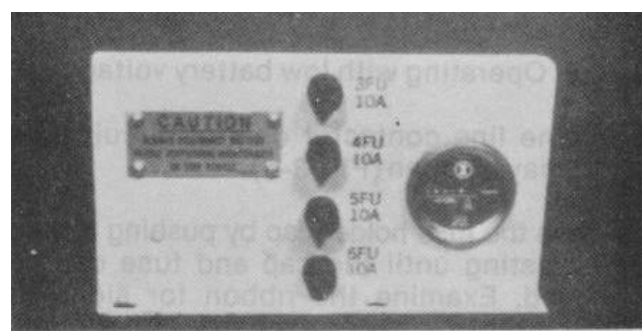
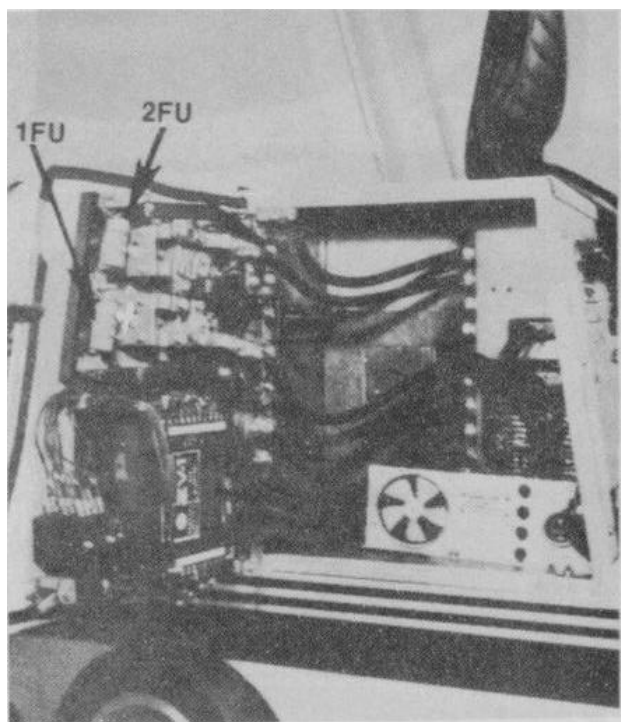

Figure 3-4
Figure 3-5
3.16 The line circuit control fuse (3FU) may be open. Remove the fuse holder cap by pushing inward and twisting until the cap and fuse can be removed. Examine the ribbon for signs of overcurrent damage. Excessive fuse openings may be due to shorts in associated components or wiring (Fig. 3-4).
Access to the fuse may be obtained by opening the electrical door at the right side of the vehicle. The control circuit fuses are mounted on a panel (Fig. 3-4). Twist and pull out the fuse and examine the ribbon for separations. Check the hydraulic pump motor fuse now that the electric door has been opened (Fig. 3-5).
3.17 The drive circuit power fuse, (1 FU), may be open. Disconnect battery and check continuity with a volt-ohmmeter (Fig. 3-5). Excessive fuse openings may be due to the following problems:
3.18 The line contactor control circuit fuse (6FU) may be open (Fig. 3-4)